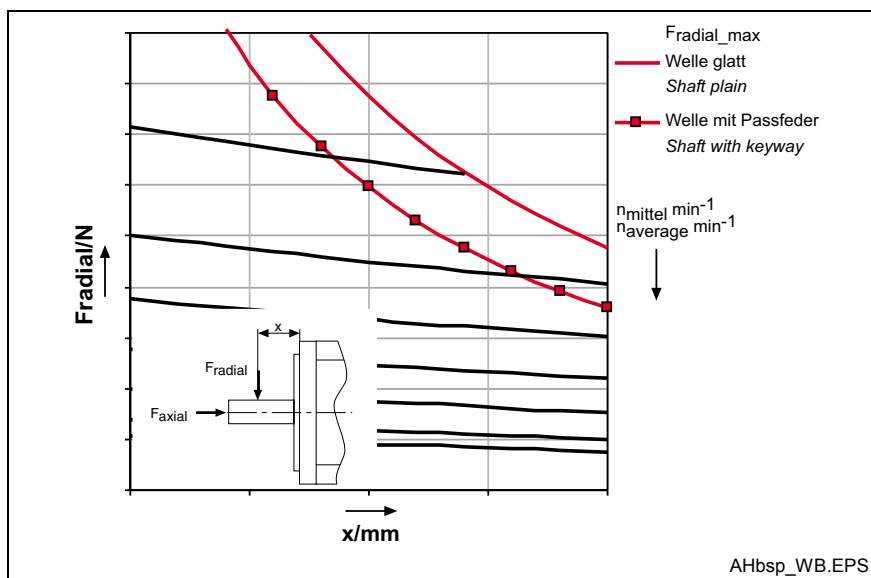

Fig. 9-24: Example of a shaft load diagram
- Point of force application, x (see Fig. 9-24)
- Point of force application x (see Fig. 9-24)